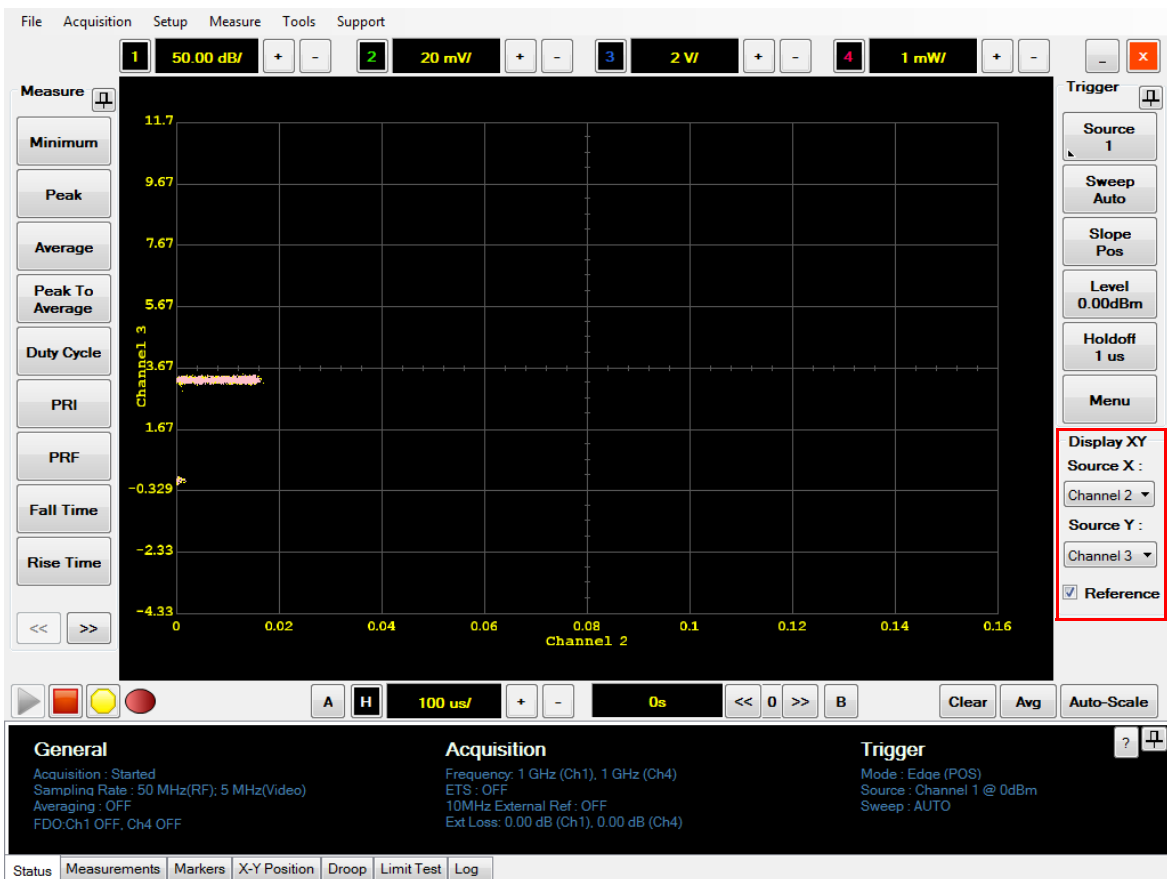

Figure 2-98 Display XY mode
- 2 An example of the Display XY mode is as shown in Figure 2-98.